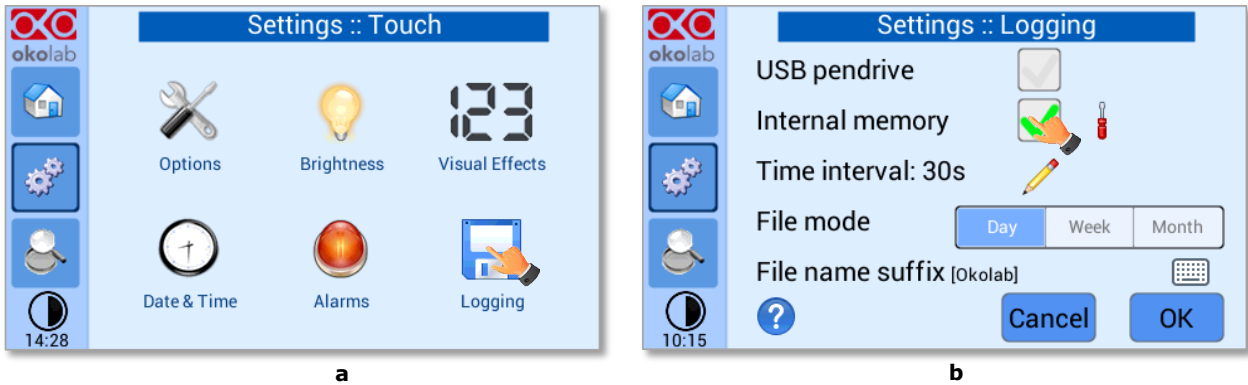

Figure 61. Logging. (a) How to enter in the logging menu; (b) logging in internal memory.
2. Press on *Logging* icon  (see Figure 61 a) and flag *Internal memory* in the page that appears (see Figure 61 b).